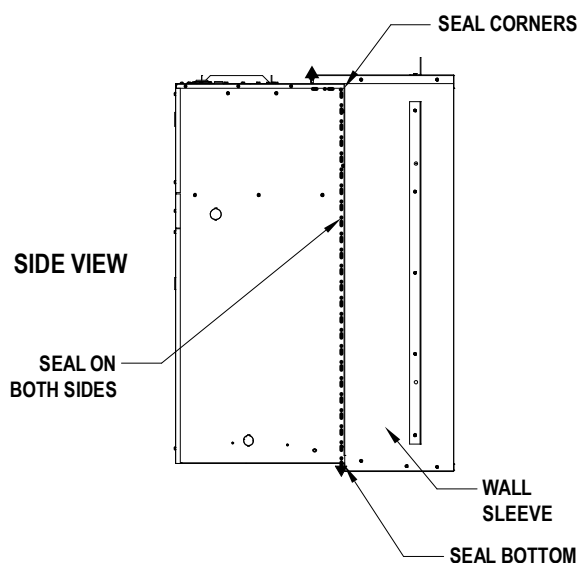

FIGURE 14 – Wall Sleeve Seal
2. Attach the bracket to the FIRST-PAK unit and the wall sleeve using the screws supplied with the wall sleeve. Refer to **FIGURE 14 – below**.
7. Inspect the sleeve seal, which is supplied with the sleeve, to ensure that it is properly secured and aligned (see **FIGURE 14 – Wall Sleeve Seal**).